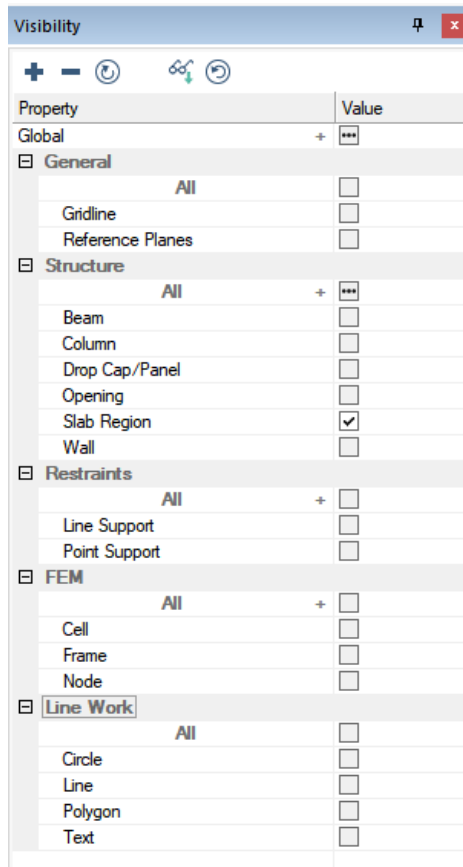

FIGURE 8-1
- In the *Visibility Grid* make the following selections as shown in **FIGURE 8-1**.